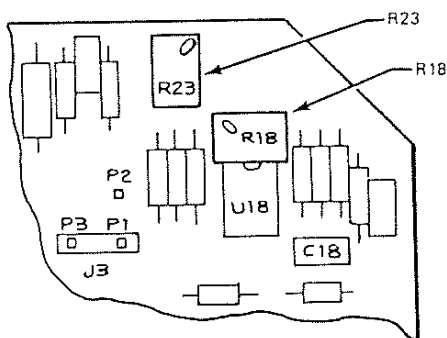

Figure 17.
- a. 0 to 10 V dc Nonisolated - Adjust R18 on the processor board for a 10.00 V dc reading (See Figure 17).
- a. Output 0 to 10 V dc Nonisolated - Adjust R23 on processor board until a reading of 10.00 V dc is achieved (see Figure 17).